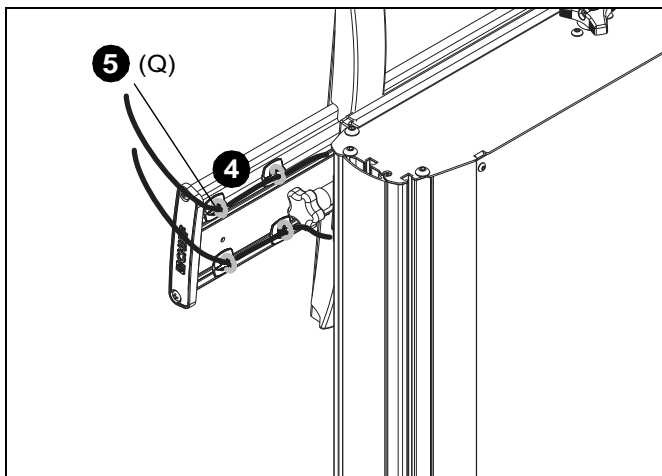

Figure 16
4. Route cables along FCA clips (P) to be used for cable management. (See Figure 16)
5. Use cable ties (Q) to secure cables to FCA clips. (See Figure 16)